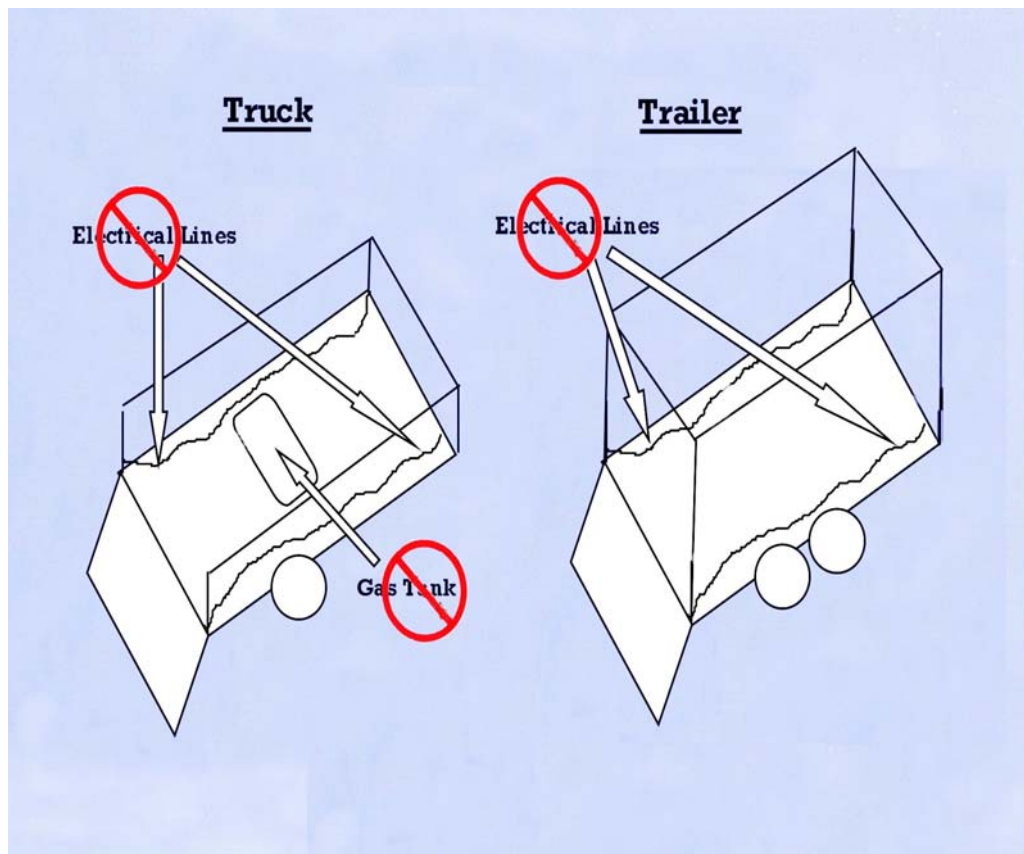

Figure 4: Typical Hazard Items/ Locations
- Locate the gas/storage tanks, brake/water/electrical lines, or other mechanical truck or trailer parts that you might damage when installing the **P-LOK™ SYSTEM** (See figure 4).